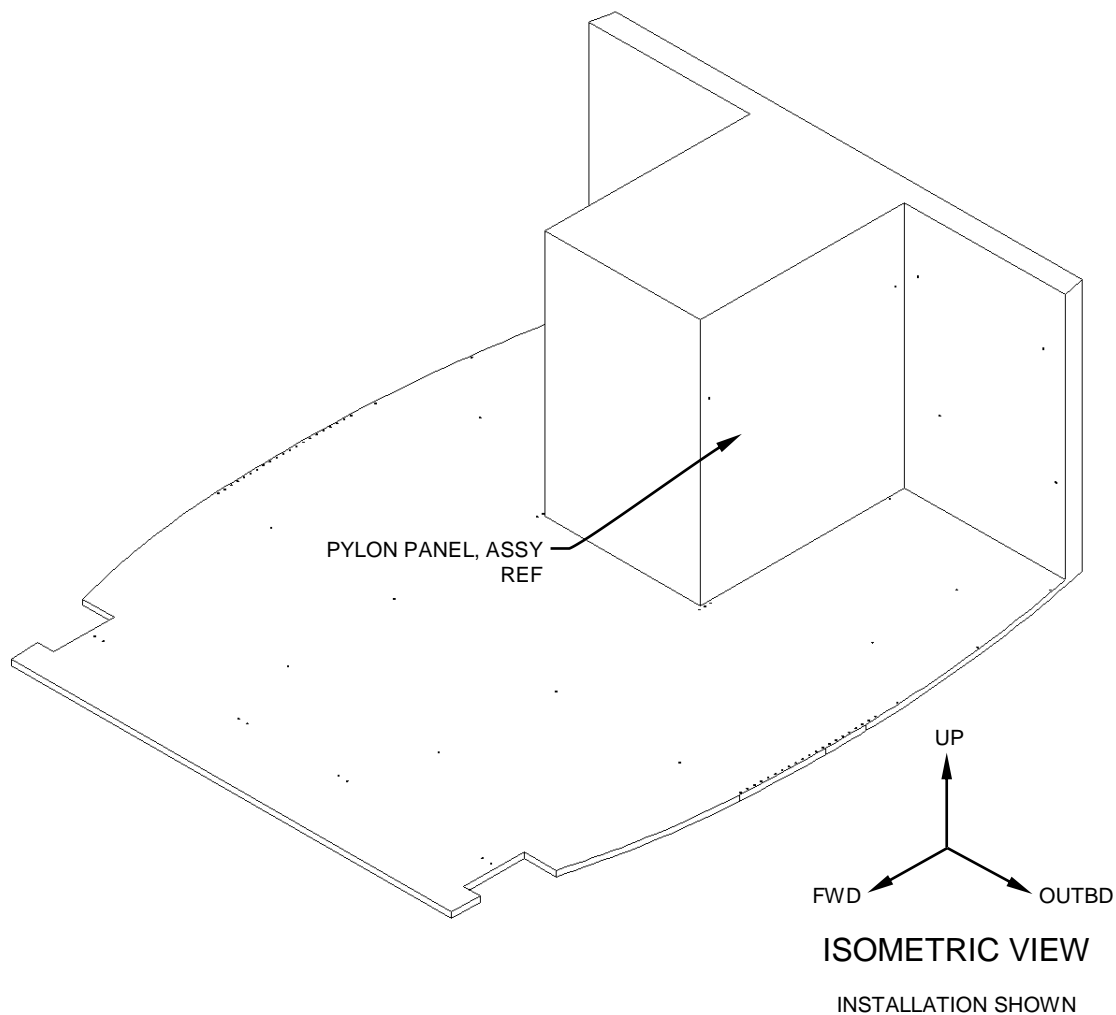

Figure 1
1. Gain access to the pylon panel, assy. Reference Figure 1.